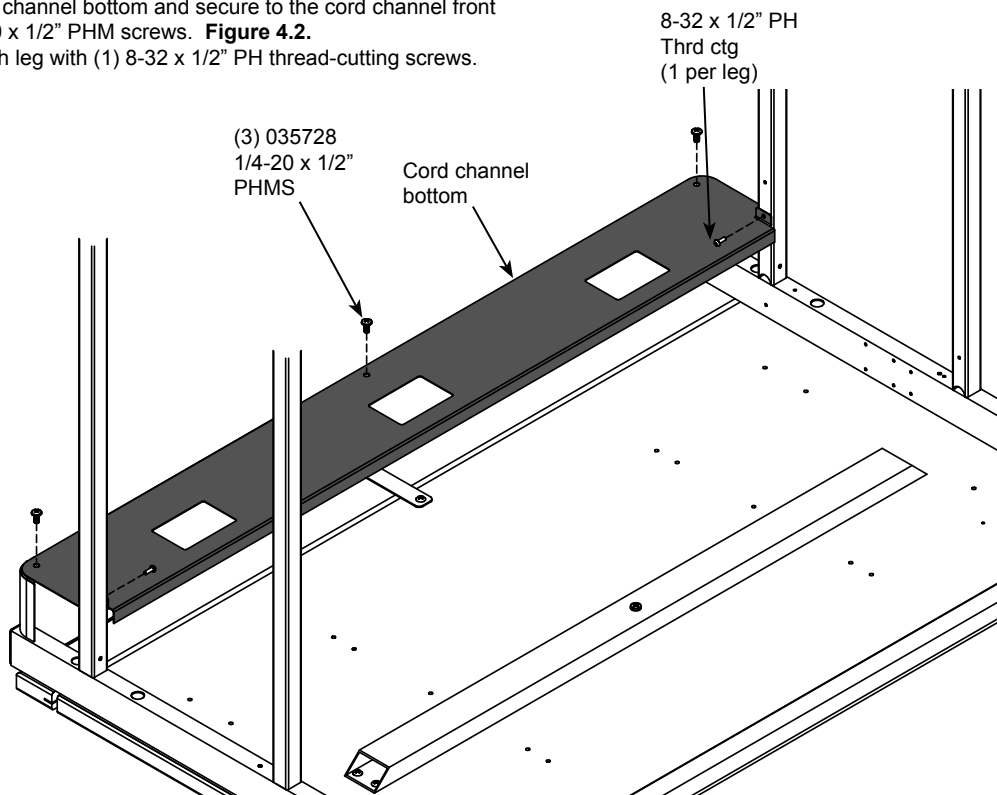

Figure 4.2
2. Align the cord channel bottom and secure to the cord channel front with (3) 1/4-20 x 1/2" PHM screws. **Figure 4.2.**
3. Secure to each leg with (1) 8-32 x 1/2" PH thread-cutting screws.